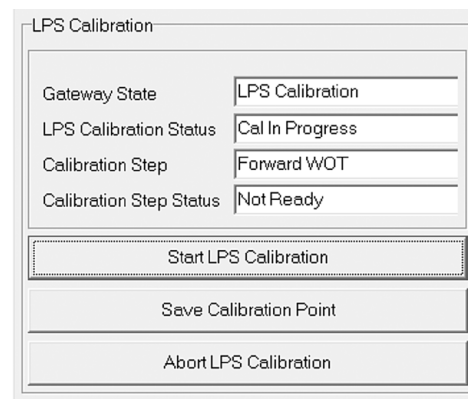

Figure B-22. LPS calibration forward WOT.
2. The LPS Calibration Status field will change to read 'Cal in Progress,' and the Calibration Step field will read 'Forward WOT' as shown in figure B-22.